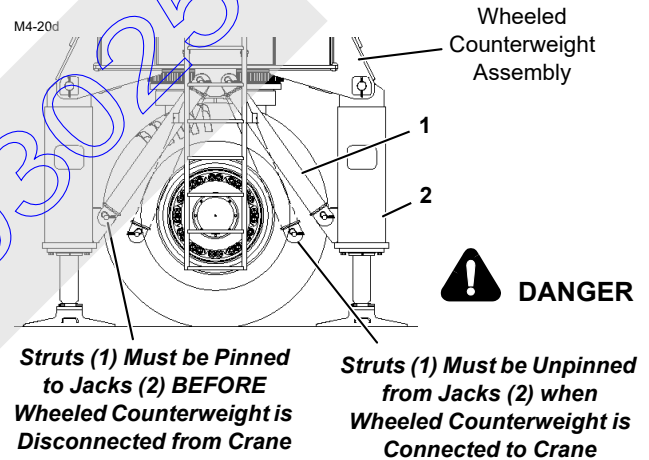

FIGURE 3-14
- Prior to operating jacks when wheeled counterweight assembly is connected to crane, disconnect struts from jacks (Figure 3-14). **Struts will be damaged if this step is not performed.**
- Prior to disconnecting wheeled counterweight assembly from crane, connect struts to jacks (Figure 3-14). **Wheeled counterweight assembly will fall over if this step is not performed.**